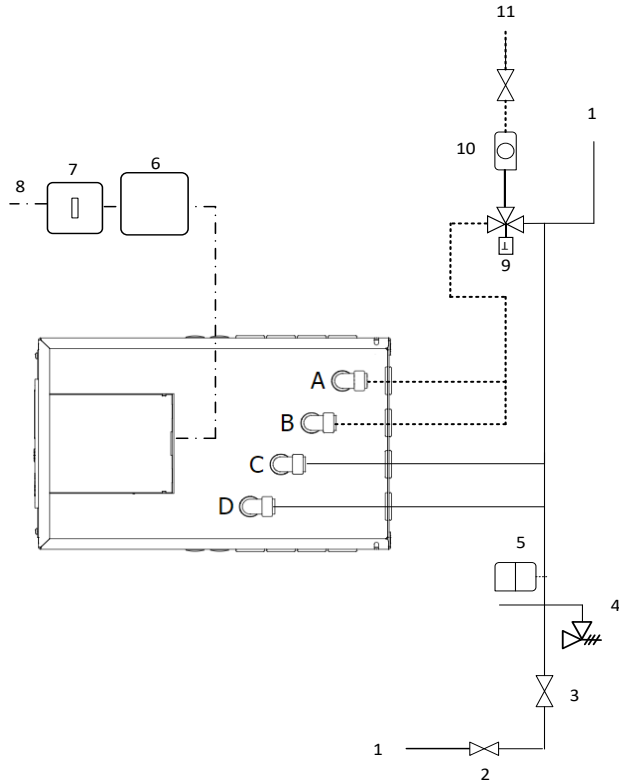

Figure 13.1: **Thermino 300 ePV** schematic (see Figure 3a for piping and electrical options available)
- Run and connect 4 Core mains power supply cable (16A, minimum 2.5mm2 CSA) from the Solar Power Diverter to the Heat Battery. (Figures 13.1, 13.2, 13.3 & Section 3.9).
Table 13.2: Explanation of components for Figure 13.1 and 13.2.